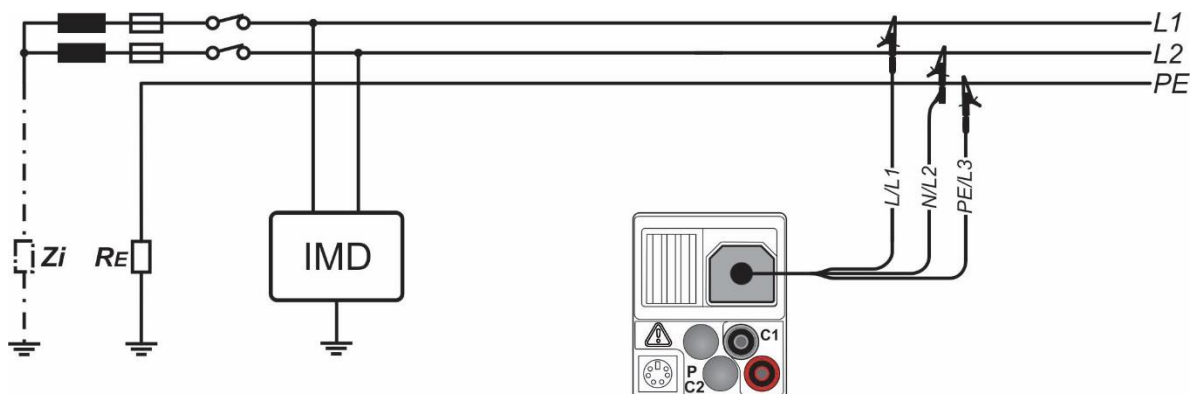
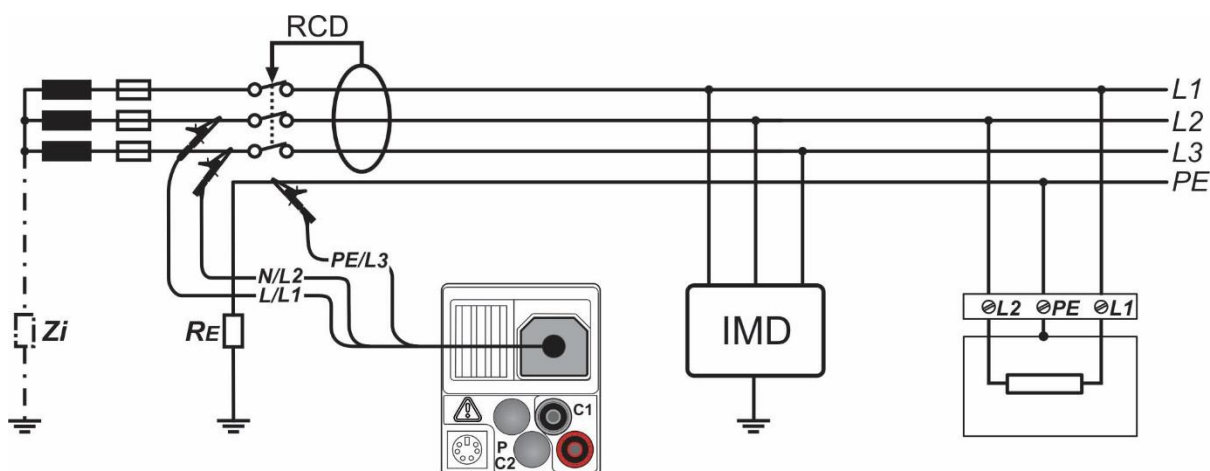

Figure 5.54: Measurement of highest first fault leakage current with 3-wire test lead
Figure 5.55: Measurement of first fault leakage current for RCD protected circuit with 3-wire test lead
- ❑ **Connect** 3-wire test lead or mains measuring cable to the instrument and tested installation (see Figure 5.54 and Figure 5.55).